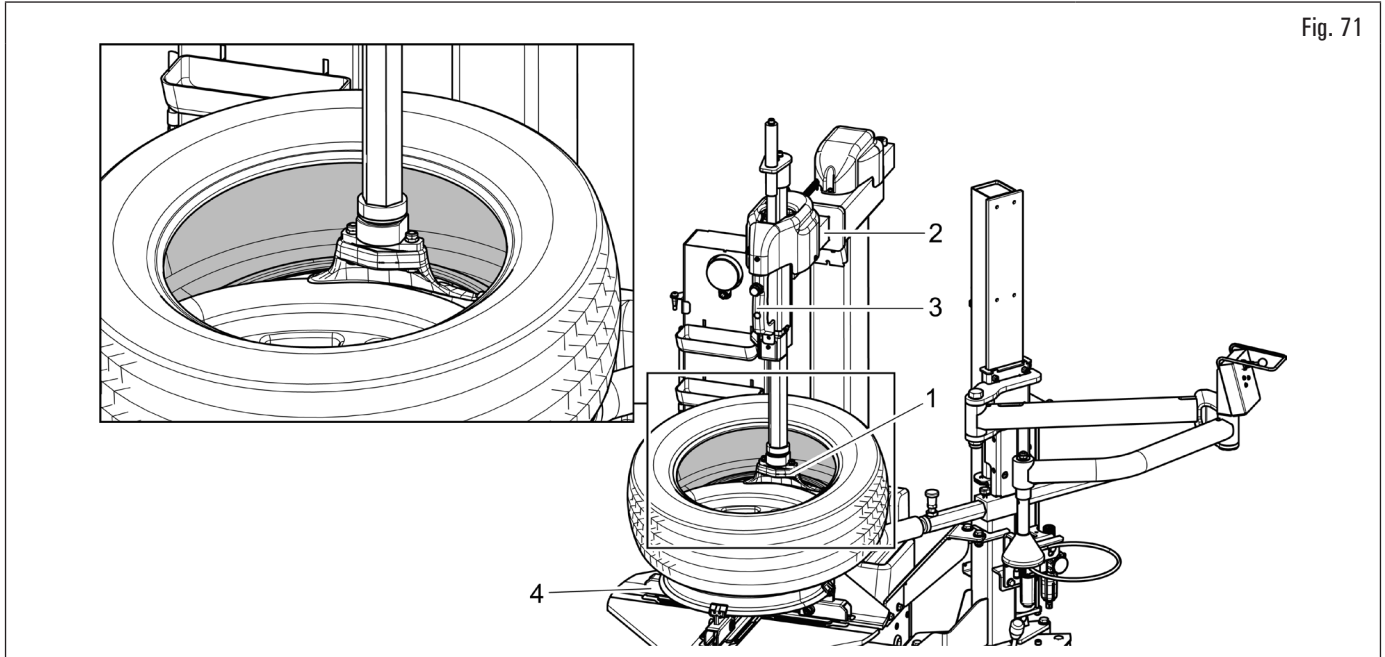

Fig. 71
5. place the toolhead (Fig. 71 ref. 1) against the rim edge and lock arm (Fig. 71 ref. 2);
If tyre is fitted on the wheel previously removed or wheel size corresponds to rim size, it is not necessary to operate handle (Fig. 71 ref. 3) to secure and release the head, only arm (Fig. 71 ref. 2) needs to be repositioned.
6. use Your hands to guide the tyre, so that the bead passes under toolhead nail (Fig. 71 ref. 1) and outside its support lip (see Fig. 71 for lower bead);
7. Turn spindle (Fig. 71 ref. 4) clockwise. Press the corresponding pedal and keeping the tyre bead pressed with Your hands in the inner rim drop centre;